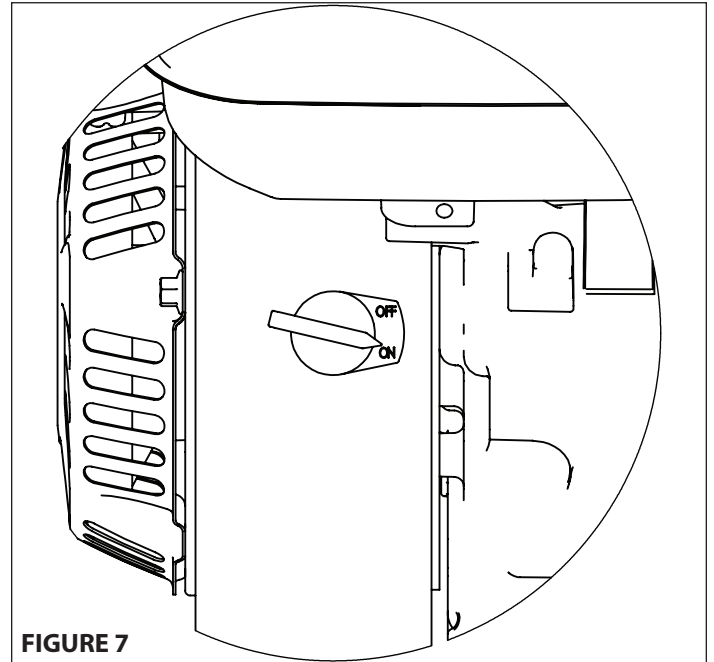

FIGURE 7
4. Turn the On/Off switch to the **ON** position. **SEE FIGURE 7**